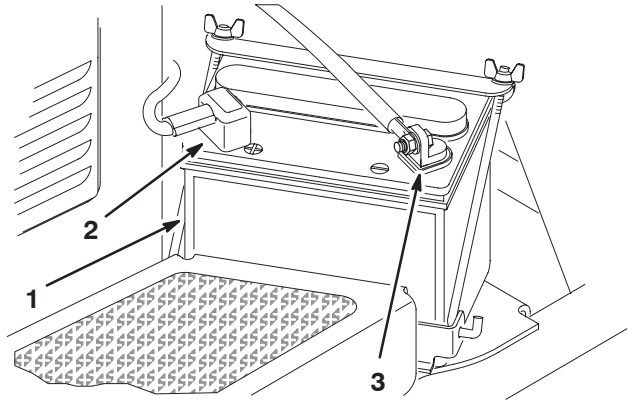

Figure 4
1. Set the battery in place, with the negative (–) terminal to the outside (Fig. 4).
3. Secure the negative cable (black) to the negative (–) terminal of the battery with a capscrew and locknut (Fig. 4).